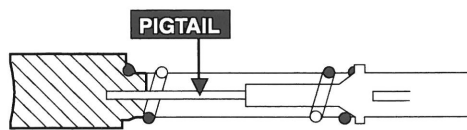

**Figure 33: Flashing the Fields.**
- b. To flash the field and build the residual magnetism, apply 12 volts DC to terminals K (-) and J (+) as indicated in Figure 33.